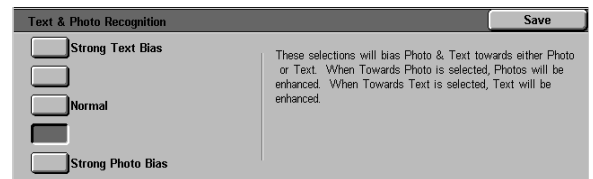

Figure 54: Text & Photo settings
- Touch the box that indicates the appropriate image quality level setting for Text & Photo, as illustrated in Figure 54.